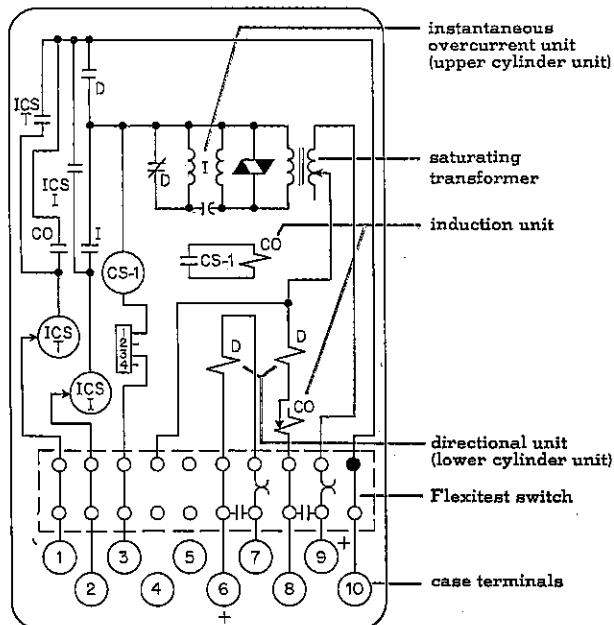

fig. 26
This cylinder-design unit is similar in construction to the directional unit except that it has one circuit closing contact. Each pair of pole windings is energized by ground current from the operating circuit. A capacitor is series-connected with one pair of pole windings to obtain the desired time-phase relationship between the current in the two pairs of coils, in order to develop the necessary rotational torque. As shown in figures 26 and 27, one of the directional unit contacts (D) is connected across one pair of pole windings of the instantaneous overcurrent unit. This contact shunts the operating current around the pole windings, preventing the instantaneous overcurrent unit from developing rotational torque. However, when the directional unit picks up under fault conditions, the short on the instantaneous overcurrent unit coils is removed, allowing the instantaneous overcurrent unit to commence closing its contact almost simultaneously with the directional unit . . . thus providing high speed operation.